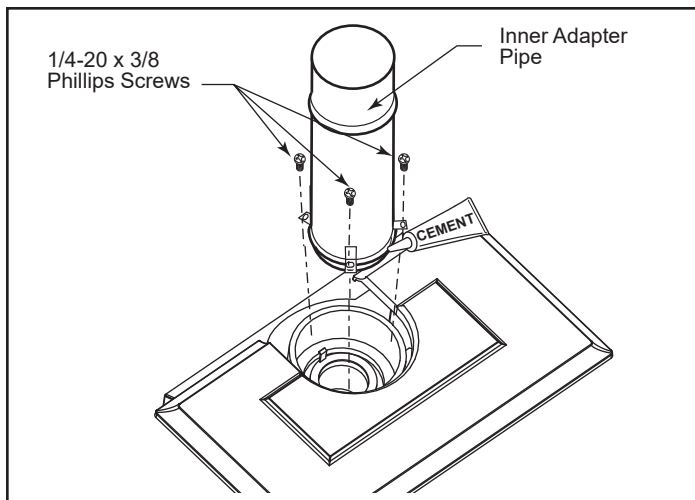

Figure 20 - Simpson DuraVent - install inner adapter pipe.
- Run a bead of sealant around the bottom end of the starter pipe and attach the assembly to the stove using three 1/4-20 x 3/8" Phillips screws provided in the parts bag. (Figure 20)